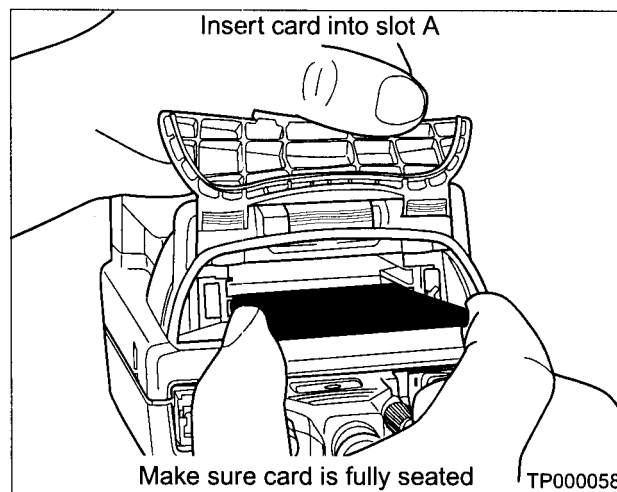

Figure 1
1. Install the ECM Reprogramming Software Card (orange) into slot A of CONSULT-II (see Figure 1).